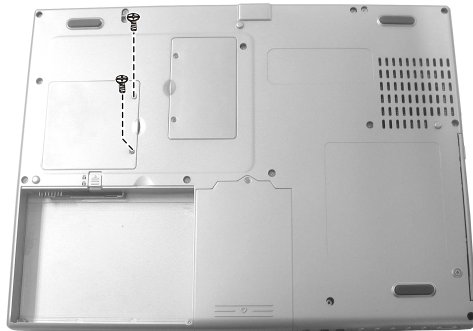

Figure 2-8 Remove the mini PCI cover
2. Remove two screws fastening the mini PCI cover. (Figure 2-8)